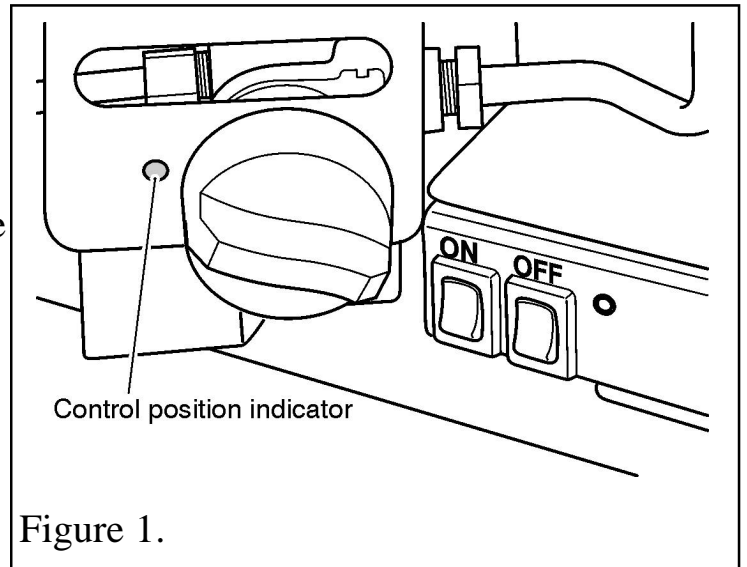

Figure 1.
- The controls are shown in figure 1.